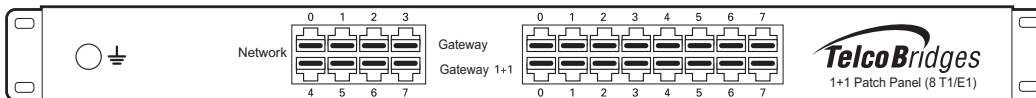

Figure 1.1 Equipment Front and Rear Views
The TSBC3000 series standalone consists of one TSBC3000 session border controller. The front and rear views are shown in figure 1.1 on page 2.
The TSBC3000 series 1+1 system, see figure 1.1 on page 2, consists of:
TSBC3000-680 or TSBC3000-2700. See figure 1.1 on page 2.
- One TSB3000+1 series unit. See figure 1.1 on page 2.